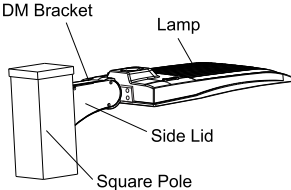

Figure 14
- Step 2: Put the connected wire into the junction box, then cover the junction box. (Figure 14)